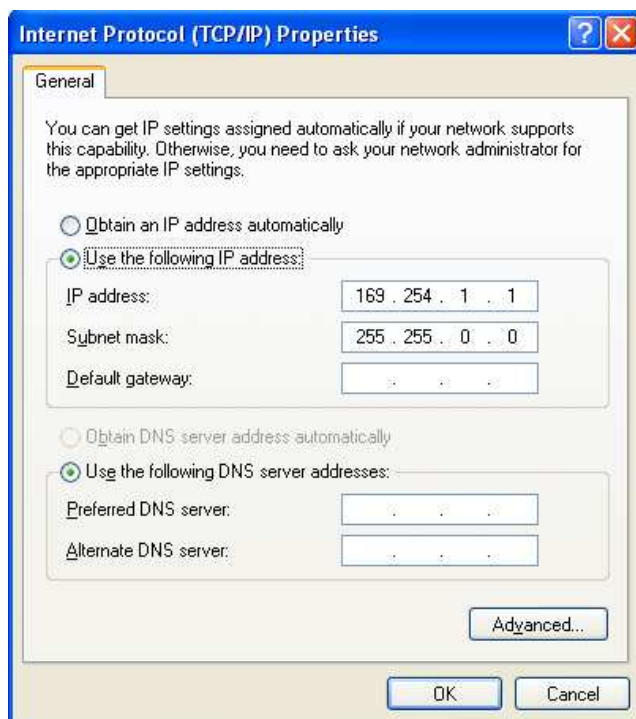

Figure 6. Network card TCP/IP address.
- o Select the **Internet Protocol (TCP/IP)** check box and then select **Properties**. See Figure 6. Network card TCP/IP address.. Select the **Use the following IP address** and enter an IP address of **169. 254. x. y**, where **x** and **y** can be any number. Press the TAB key after entering the IP address and the subnet mask will automatically be entered. The subnet mask is **255. 255. 0. 0**. Click **OK** to save changes. Note that if Windows reports a conflict with the above IP address, simply repeat the above steps and change the last digit of the IP address to a different value.